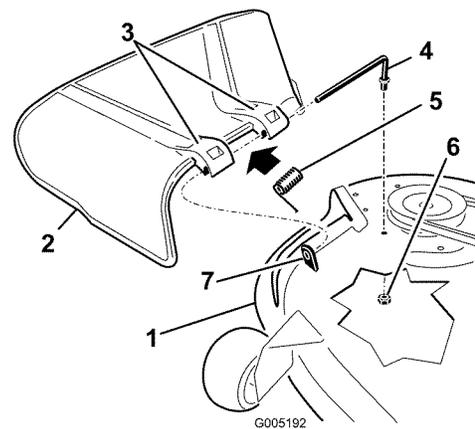

Figure 55
- Locate items shown in Figure 55.
- Remove the nut (3/8 inch) from the rod under the mower (Figure 55).
- Slide the rod out of the short stand-off, internal lock washer, spring, and grass deflector (Figure 55). Remove the damaged or worn grass deflector.
- Replace the grass deflector and internal lock washer (Figure 55).
- Place the spring on the rod, with end wires down, and between the grass deflector brackets. Slide rod through second grass deflector bracket and internal lock washer (Figure 55).
- Insert rod at front of grass deflector into short stand-off on deck. Secure rear end of rod into the mower with a nut (3/8 inch) (Figure 55).